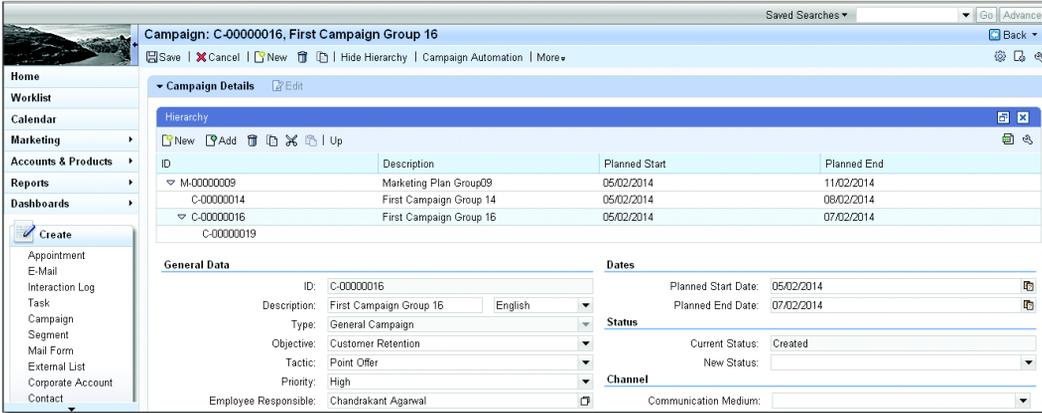

Figure 5.4 Campaign Linked to the Marketing Plan
- For linking the marketing plan to the campaign, go to the marketing plan M-00000009 just created (see Figure 5.4). Click on SHOW HIERARCHY, and then click on the NEW button. You'll receive a popup to link the campaign to the marketing plan. Select the campaign and the campaign number. The PARENT field is where the marketing plan number will be shown.